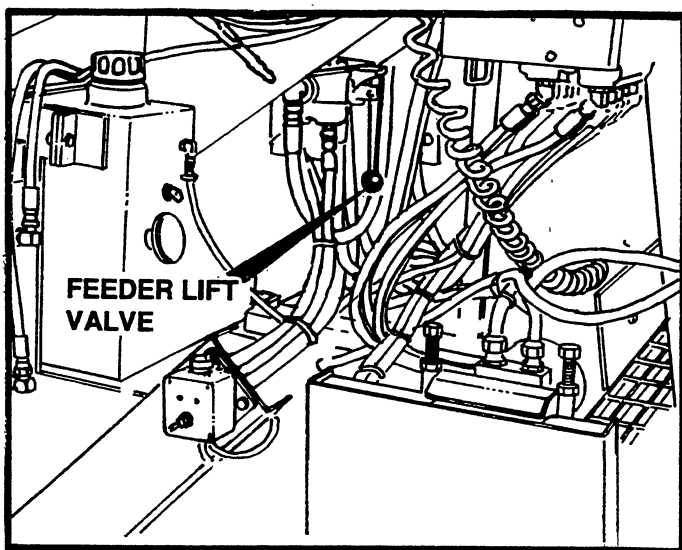

FIGURE 31
2. Raise feeders by pushing feeder lift valve forward. The location of this valve has purposely been placed in an inconvenient position to prevent the accidental raising of the feeders. See Figure 31.